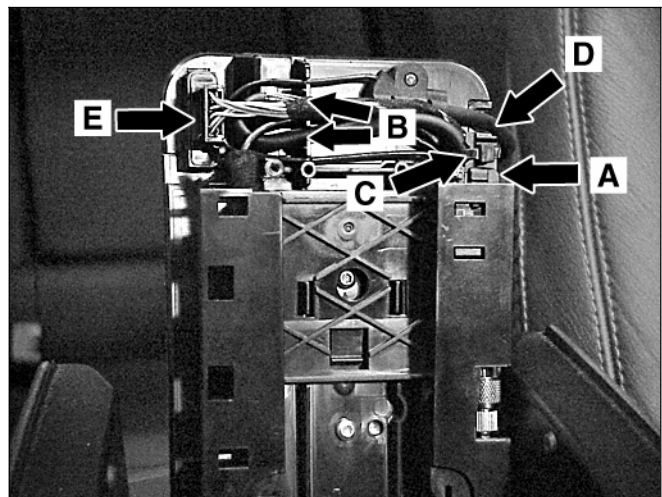

Figure 12
16. Connect the coil-cord power connector by pushing it in until it snaps into place (A, Figure 12).
17. Route the coil-cord through the inner channels of the base plate (B, Figure 12).
18. Install a wire-tie to relieve stress on the coil-cord power connection (C, Figure 12).
19. Route the coil-cord through the notch cut out of the base plate (D, Figure 12).
20. Reconnect the Tele Aid power connector (E, Figure 12).